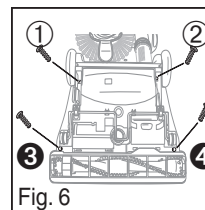

Fig. 6
- 8) Replace screws **3 & 4** closest to the brush roll first. Then replace screws **1 & 2** (Fig 6).